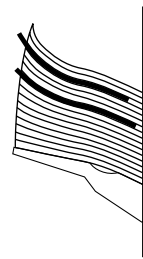

Figure 7-118
- After setting this mode, if sheets with little curling or upward curling sheets are output and stacked, the stacking tray is raised too far. For this reason, sheets are stacked pressed out by subsequent output sheets. (Figure 7-118). Set this mode after carefully checking the type of paper used by the user.